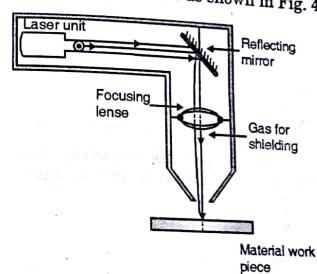

Fig. 4.14.2 : Laser welding machine
(1) For welding and melting : In very short time metal can be melt and then it will be evaporating. Thus accurate welding and melting of the hard material can be done very easily. Using laser perfect and non porous joints of metals are possible. The typical laser welding machine is as shown in the Fig. 4.14.2.
The typical laser welding machine is as shown in Fig. 4.14.2.